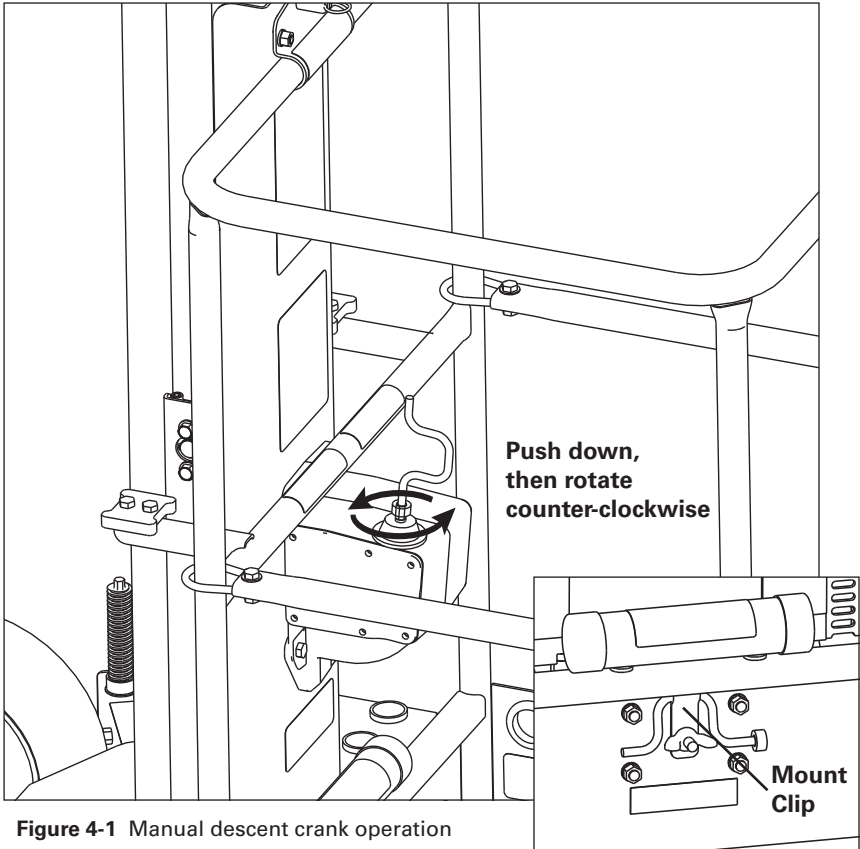

Figure 4-1 Manual descent crank operation
5. Push down on the top of the handle to disengage the drive shaft brake and wind counterclockwise until the platform lowers fully to the docked position. (see Figure 4-1)